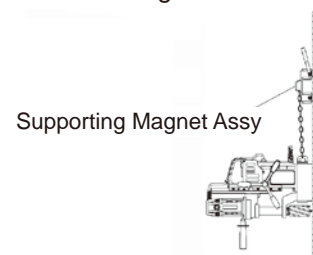

Fig. 5
- The use of a Supporting Magnet Assy is shown below. (Fig.5)